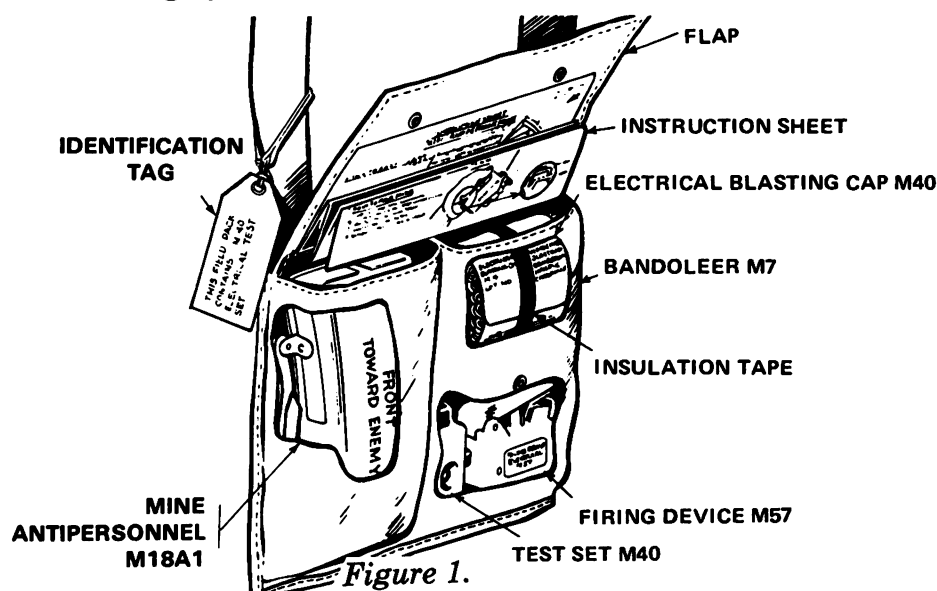

Figure 1.
a. Account for all accessories in the bandoleer (figure 1) and read the attached instruction sheet. Remove the electrical firing wire, leaving the mine and other accessories in the bandoleer.